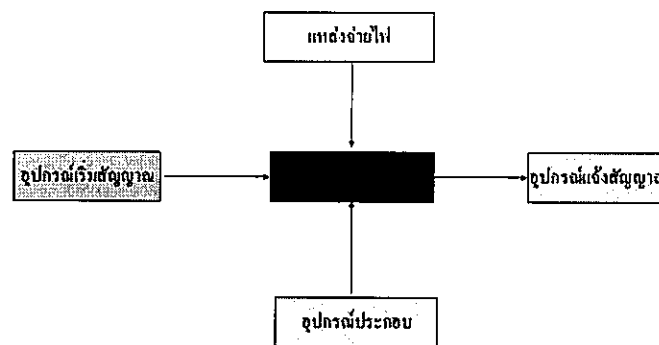

Figure 5: Diagram showing the control of Fire safety system
- (1) Photoelectric smoke detector or fire detection device at a height of 12 meters and must be able to work in a class 100000 clean room according to the standards of the Ministry of Industry or its equivalent.
- (2) There must be installations of CO2 fire extinguisher or sprinkler or fire horse or handheld fire extinguisher according to the standards of the Ministry of Industry or its equivalent.
- (3) There must be an audible alarm.
- (4) There must be a control unit system for controlling all devices as shown in figure 5. The flow of the system is shown in the figure.